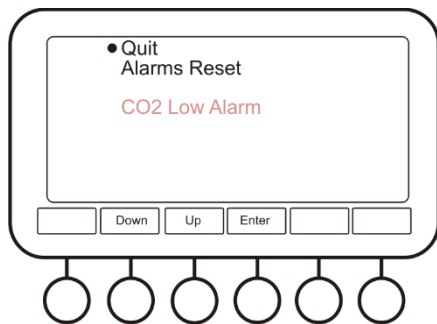

Fig. 10. Active Alarms menu
- 4.9.4. **Active Alarms** (fig. 10). This option allows user to view and reset the list of active alarms. See **Fault diagnostics** section, p. 5.5., for a list of possible alarms.